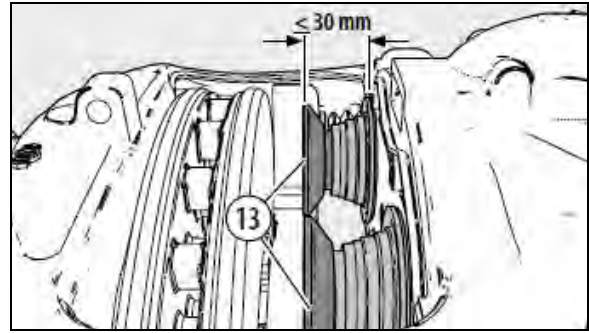

FIGURE 53: SCREW OUT TAPPETS - MAX. 1.181 IN / 30 MM
Screw out the tappets (13) using the shear adapter (61) clockwise until the boots are clearly visible (see Figure 53).